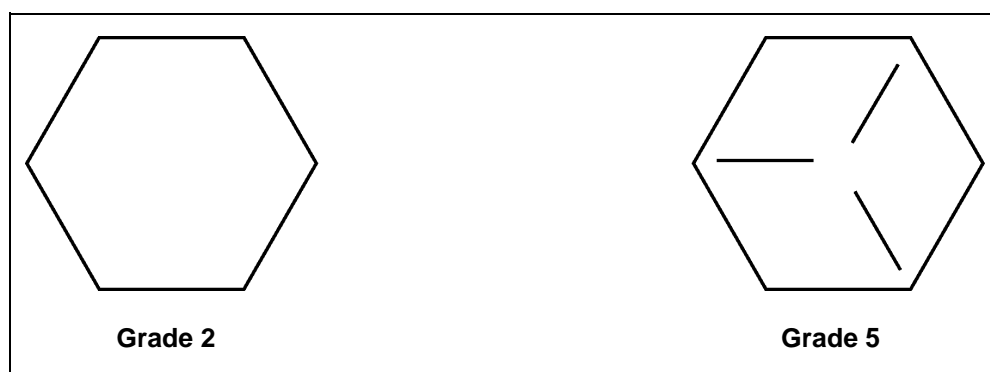

Figure 5W
19. After the drying floor has been installed, attach both halves of the perforated cover plate to the sump using nine (9) 1/4" x 1/2" hex flange head screws. Secure to the drying floor with twenty (20) 1/4" x 3/4" self-drilling screws. Make sure the angle ring on the perforated cover is sticking up. See center sump and gearbox assembly on Page 83, Ref #8 and Ref #9 on Page 83.
20. Bolt one floor auger to the gearbox hub using 5/16" x 1-1/2" grade 5 hex bolts and lock nuts. For grade 5 identification, See Figure 5W.